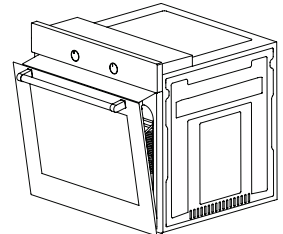

Figure 27
2. Locate the two mounting tabs on the heat shield into the two slots under the control panel, then secure in place between oven and inner door by gently closing the door. (Figure 27)